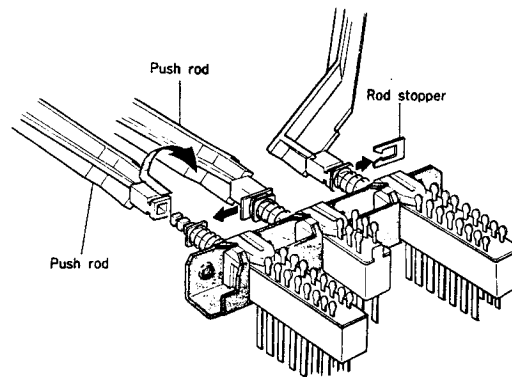

Fig. 4
- 1) Remove the rod stoppers and take out the pus-rods. (Refer to Fig. 4)
- 1) Remove the rod stoppers and take out the push-rods. (Refer to Fig. 4)